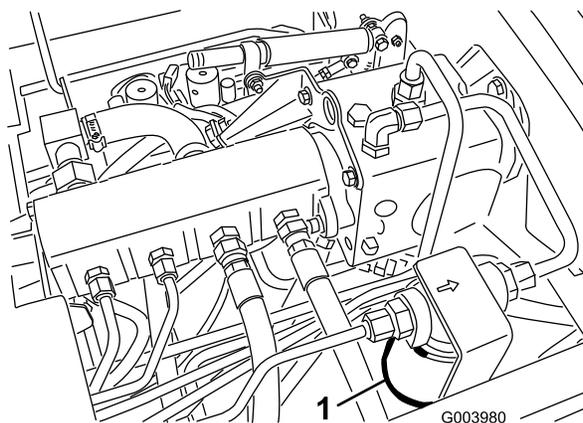
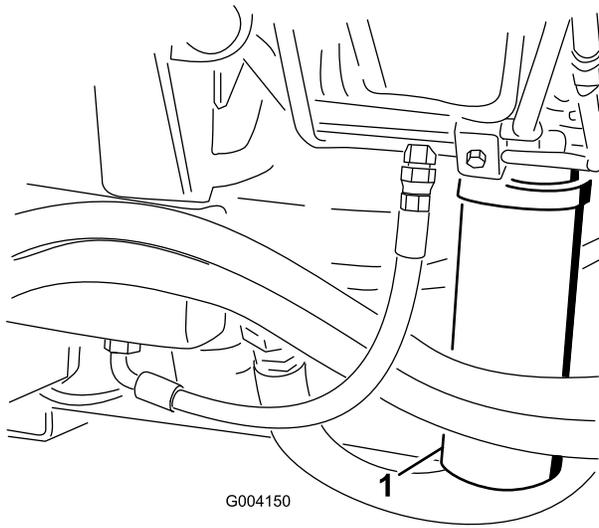

Figure 51
Figure 52
2. Clean the area around the filter mounting area and place a drain pan under filter (Figure 51) and (Figure 52).